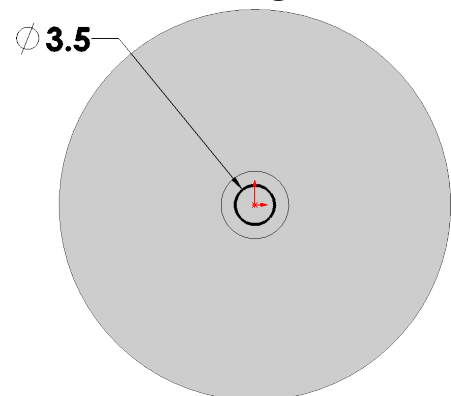

Fig. 9
Step 4. Sketch a circle for the hole at Origin , **Fig. 9**.
Step 5. Click **Smart Dimension**  (S) on the Sketch toolbar.
Step 6. Dimension axle hole **diameter 3.5**, **Fig. 9**.